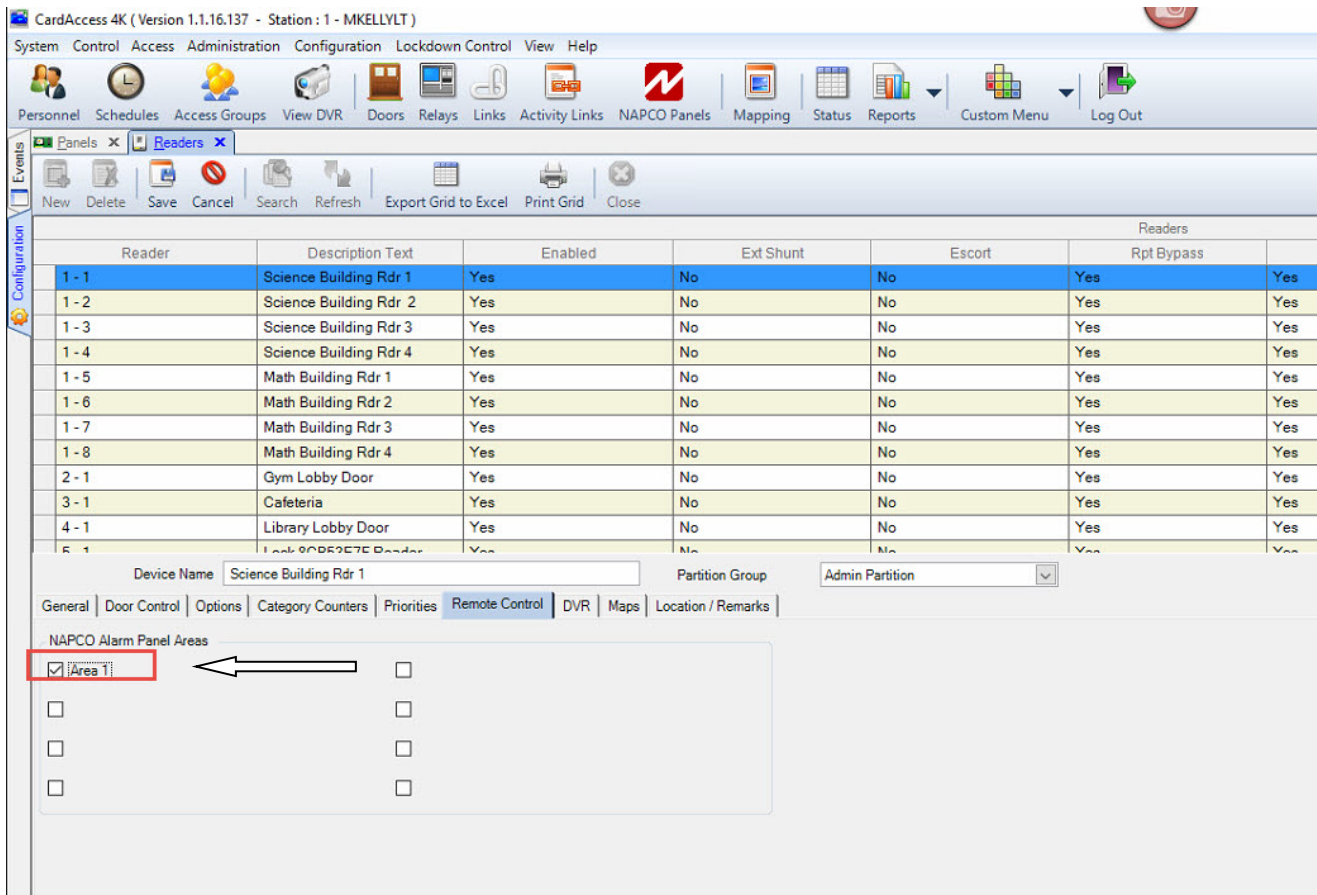

Figure 13.
9. Configure the **CA4K Readers** screen as follows (Refer to Figure 13).